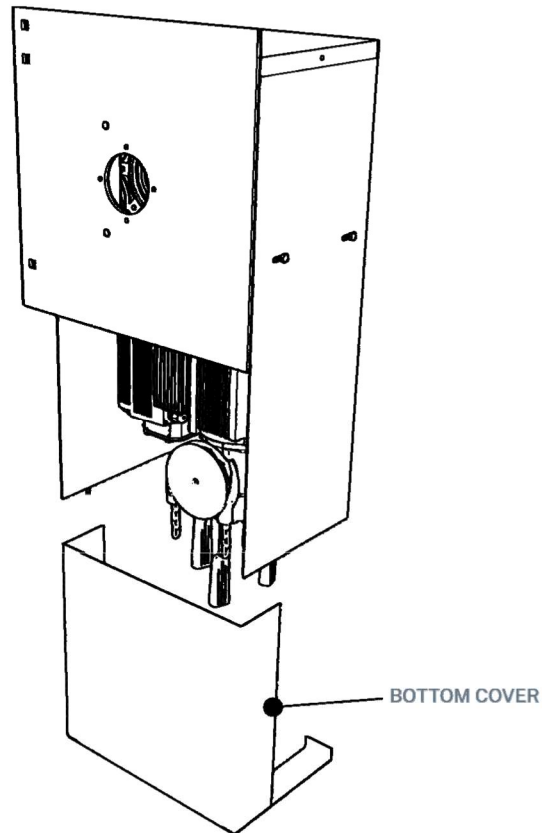

Figure 5 – Bottom Cover
6. From below, slide the **BOTTOM COVER** into place in between the **COVER FILLER** piece (if required) and the bracket. See **Figure 5** for reference.
7. Secure the **BOTTOM COVER** to the **FRONT/TOP COVER** using the remaining 10-16 x 1/2" tap screws as shown in **Figure 5** to secure it in place.